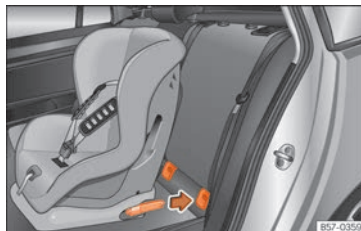

Fig. 27 Rear seats: fitting a child seat with the ISOFIX system.
- Press the child seat onto the "ISOFIX/iSize" retaining rings until the child seat is heard to engage securely »» Fig. 27. If the child seat is equipped with Top Tether anchor points, secure it to the correspondent ring »» page 37. Follow the child seat manufacturer's instructions.